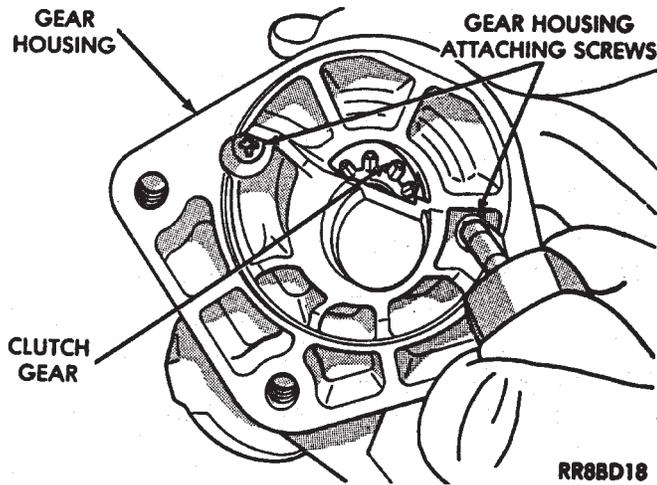
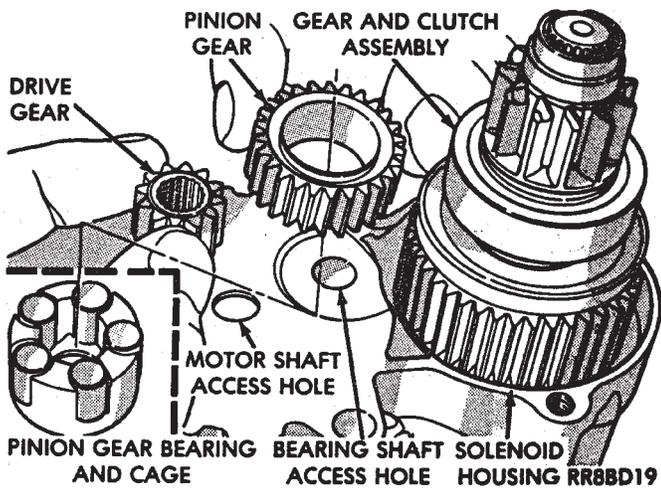
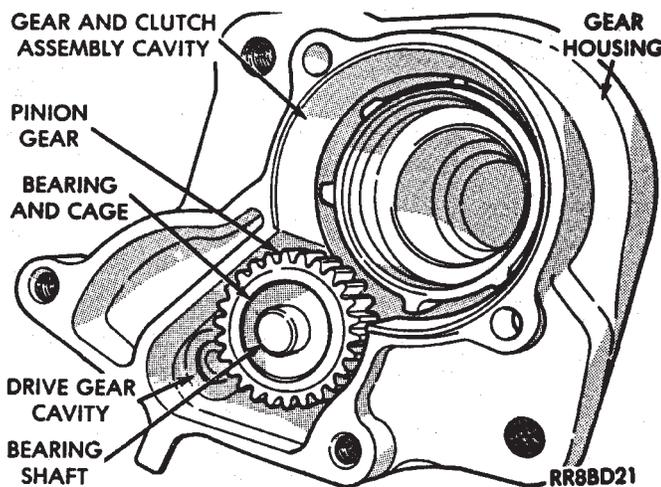

Fig. 10 Remove or Install Gear Housing
Fig. 11 Remove or Install Drive and Pinion Gears
Fig. 12 Lubricate and Install Pinion Gear Bearing
(1) Remove the two gear housing attaching screws and separate the gear housing from the solenoid housing (Fig. 10). The pinion gear, pinion gear bearing, and drive gear will be loose between the solenoid housing and gear housing (Fig. 11). When reinstalling pinion gear and bearing, wipe with a clean rag and coat with lightweight high temperature wheel bearing grease. Place the lubricated bearing and gear over the bearing shaft in the gear housing (Fig. 12).